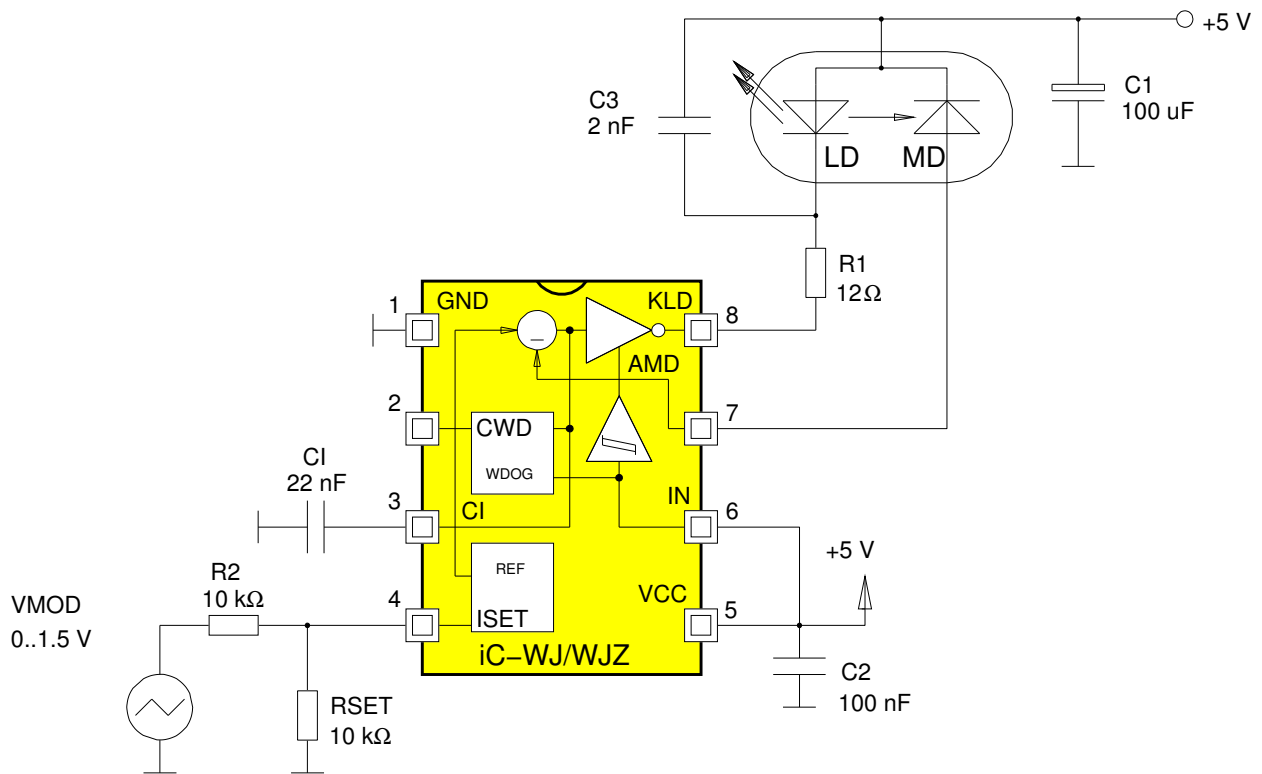
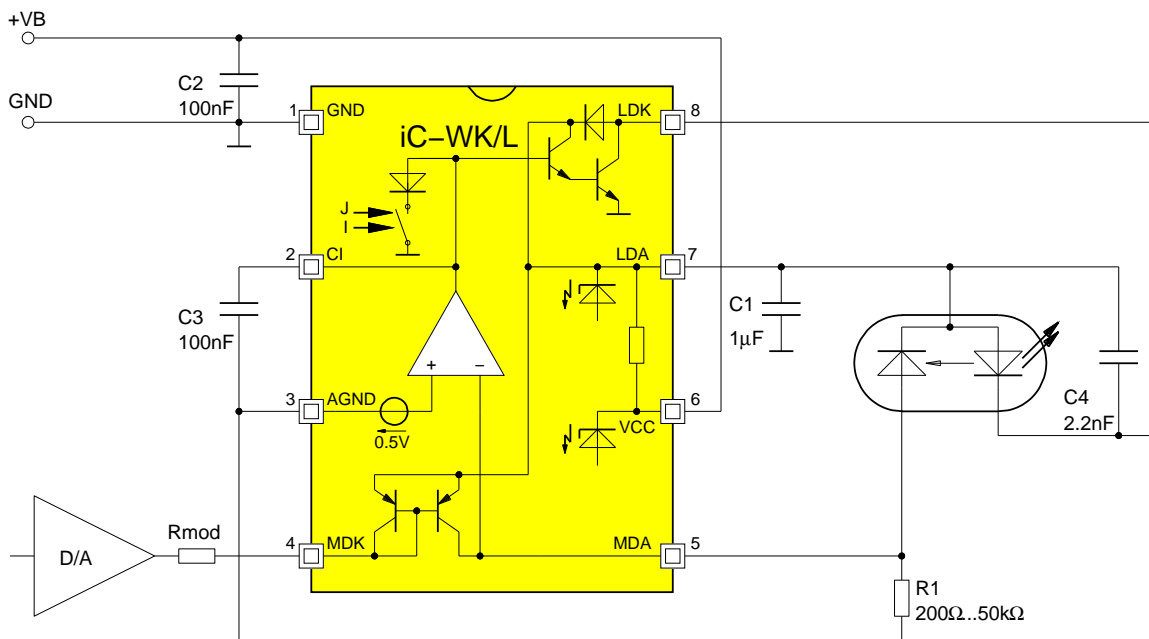

Figure 9: Analogue modulation in the iC-WJ product range
Figure 11: Analogue modulation in the iC-WK product range using the second monitor input
With regard to all of the driver devices described herein, in principle analog modulation (modulation depth  $\ll 100\%$ ) is possible up to a specific cutoff frequency which is determined by the integration capacitor (CI). This can either be achieved through direct modulation at the operating point adjusting resistor (see Figures 9 and 10) or, with devices in the iC-WK product range, at the second monitor current input (Figure 11).